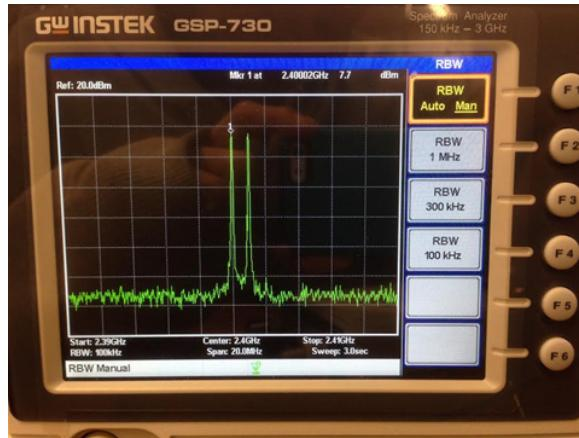

Figure 18: Screenshot of the spectrum analyzer with two-tone input.
- (h) The screen of the spectrum analyzer should look similar to Fig. 18.